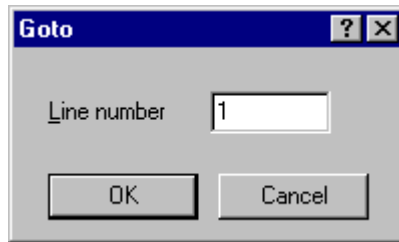

Figure 4.5: Goto Dialog
2. Select [**Edit->Goto Line...**], press **CTRL+G**, or select [**Goto Line...**] from the editor window's local menu. A goto line dialog box will be displayed * MERGEFORMAT (figure 4.5).